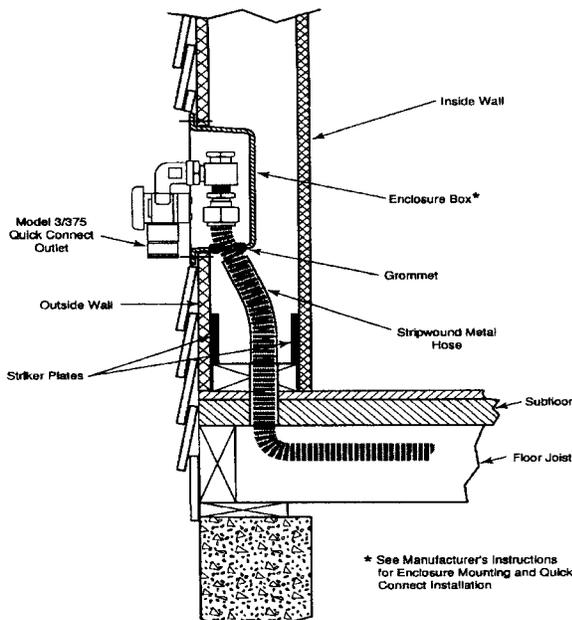

Figure: 4-19
1. Movable grills shall be connected using an approved outdoor appliance connector which shall be attached to the flexible piping system at either a termination mount fitting, a transition to a steel nipple, or a quick connect device such as the M. B. Sturgis Model 3/375 shown in Figure: 4-19. The quick-connect outlet shall be installed in accordance with manufacturer's instructions.